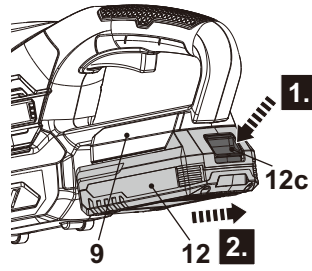

Fig. 4
2. Press the release button (12c) and remove the battery pack (12) from the battery docking port (9) (Fig. 4).